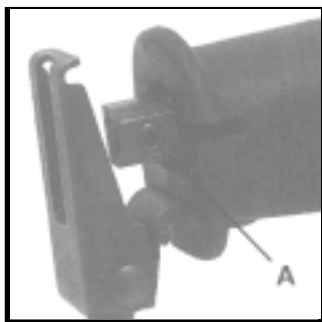

Fig. 1
1. Use hex wrench to loosen blade clamp screw (A) Fig. 1, by turning counterclockwise three to four turns.